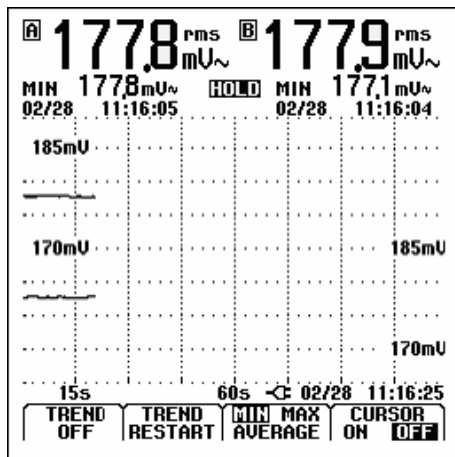

Figure 5-1. TrendPlot Reading
③  Start the TrendPlot. You will see a screen like figure 5-1.